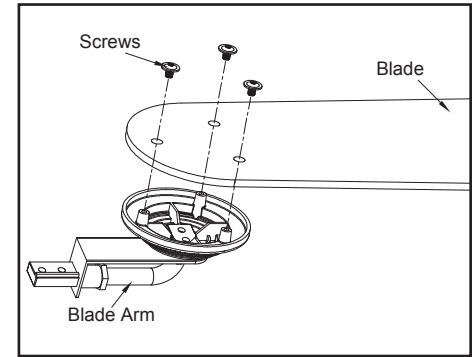

Figure 12
1. Attach a blade to a blade bracket by aligning the three screw holes in the blade and the screw holes in the blade bracket and secure with screws provided; Repeat for the remaining blades. (Figure 12)